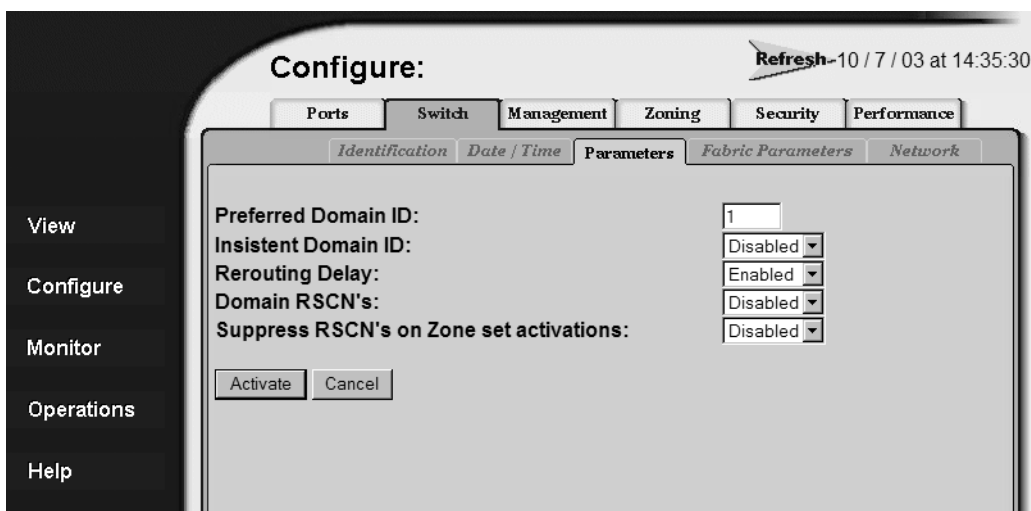

Figure 17: Switch page—Parameters tab
3. Choose **Switch > Parameters** to display the **Parameters** tab (Figure 17).